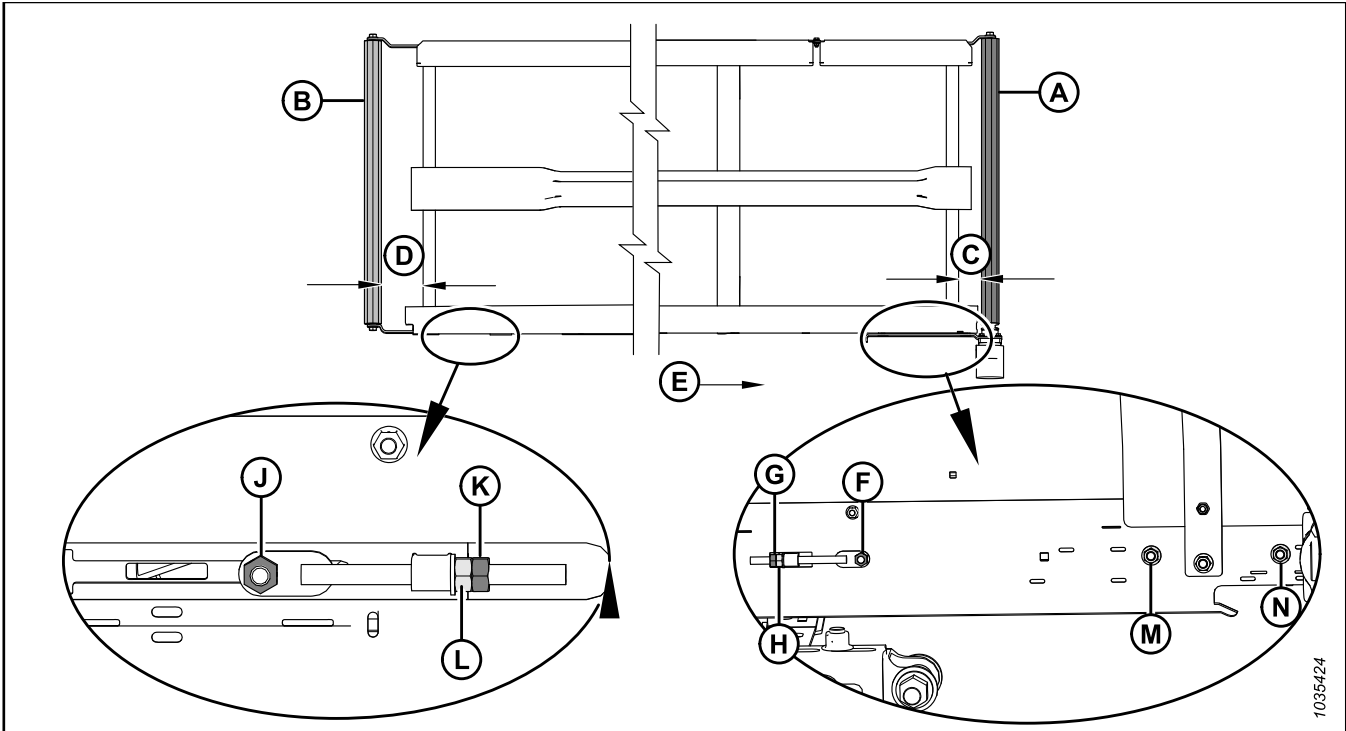

Figure 4.234: Draper Tracking Adjustments – Left Draper
2. Adjust drive roller (A) to change **C** (refer to Table 4.2, page 706 and Figure 4.234, page 706) as follows:
- a. Loosen nuts (F), (M), and (N), and jam nut (G).
- b. Turn adjuster nut (H).
- c. Tighten nuts (F), (M), and (N), and jam nut (G).
3. Adjust idler roller (B) to change **D** (refer to Table 4.2, page 706 and Figure 4.234, page 706) as follows:
- a. Loosen nut (J) and jam nut (K).
- b. Turn adjuster nut (L).